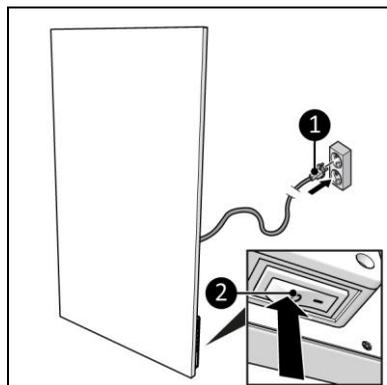

Figure 16
2. Make sure the ON/OFF switch is in the OFF position (Figure 16, pos. 2).
3. Place the power plug (Figure 16, pos. 1) into an earthed wall socket that is easily accessible. Use an earthed wall socket with a minimum power of 1000 Watt.